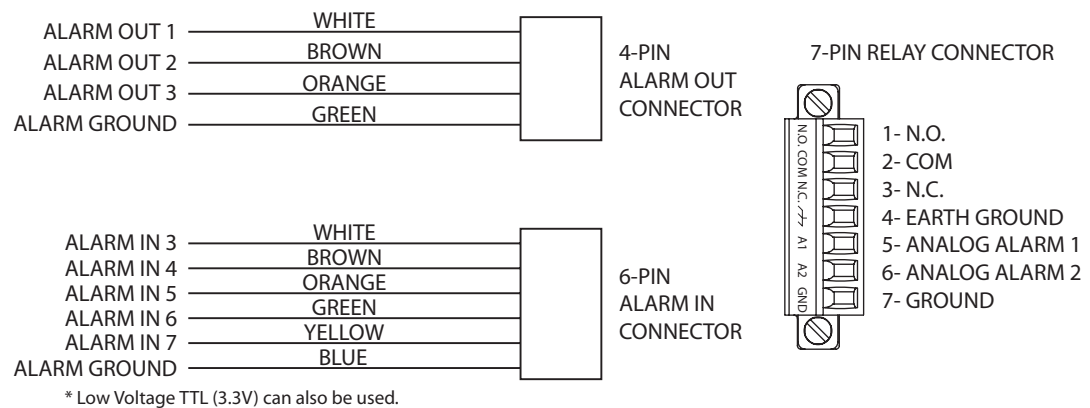

Fig. 2.13 Alarm and Relay Connector Plugs
5. To connect supervised alarms and relays, attach the appropriate wires to their terminals on the P104 connector on the pipe Interface Board (see *Figure 2.13*, above). In addition, see *Chapter 5: Alarms and Relay Connections* for more details on wiring alarms and relays.